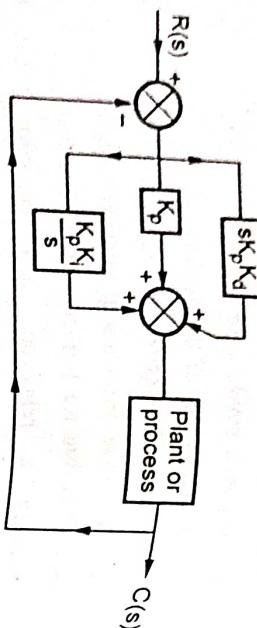

Fig. Q.8.1
- The Fig. Q.8.1 shows the block diagram of PIB controller